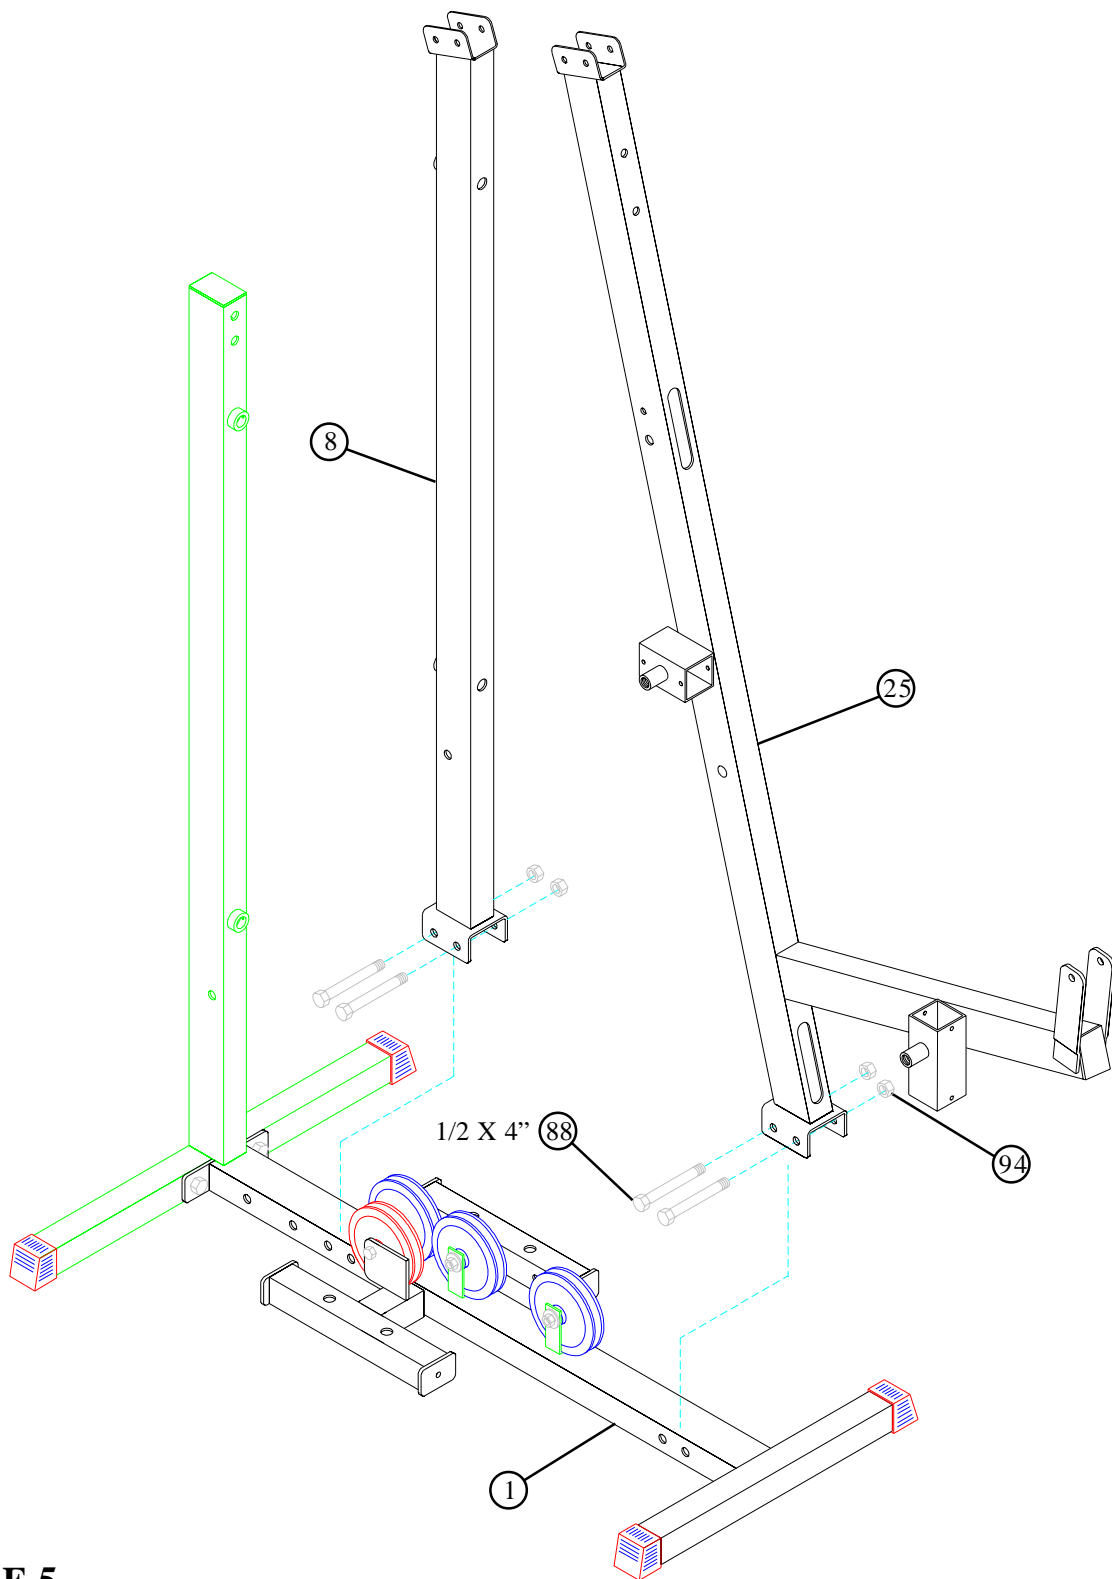

FIGURE 5
- **LOOSELY** assemble the FRONT (25) & MIDDLE UPRIGHTS (8) to the BASE (1) using four 1/2 X 4" BOLTS (88) and four 1/2" LOCK NUTS (94) as shown in FIGURE 5.